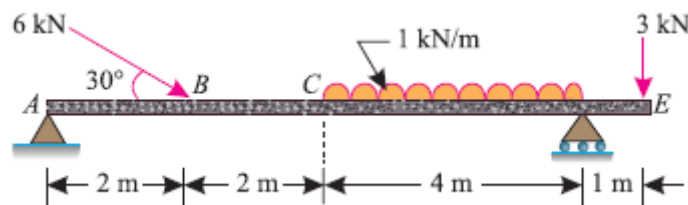

Fig.4
7. A beam ABCDE hinged at A and supported on rollers at D, is loaded as shown in Fig.4. Find the reactions at A and D. [10 M]